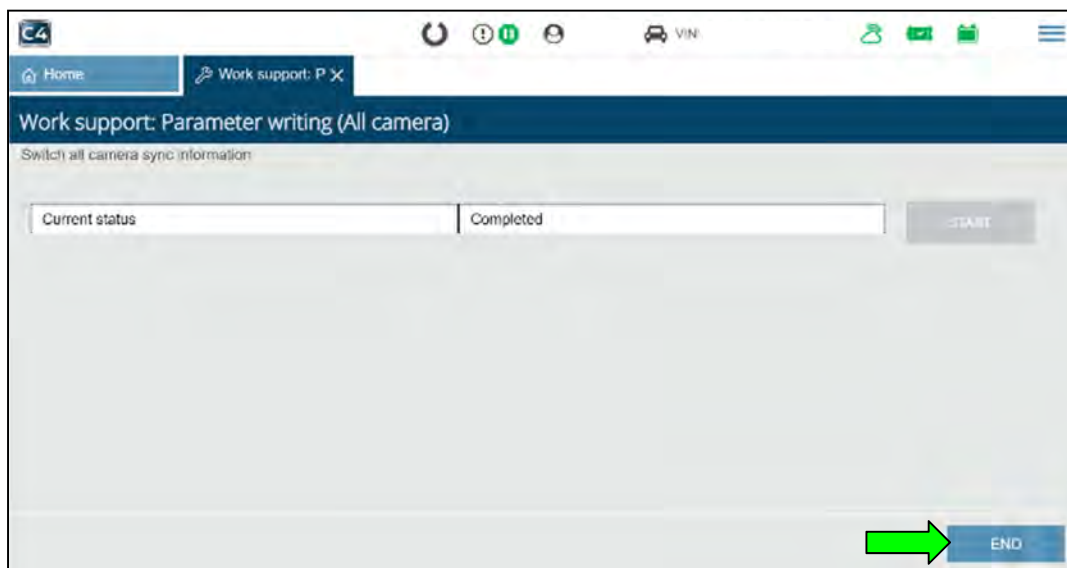

Figure 13
**HINT:** It may take up to 5 minutes for the screen in Figure 13 to display once the green Play icon is selected.
- If the **Parameter writing** is successful (Figure 13), select **END** and then skip to step 14 on page 10.